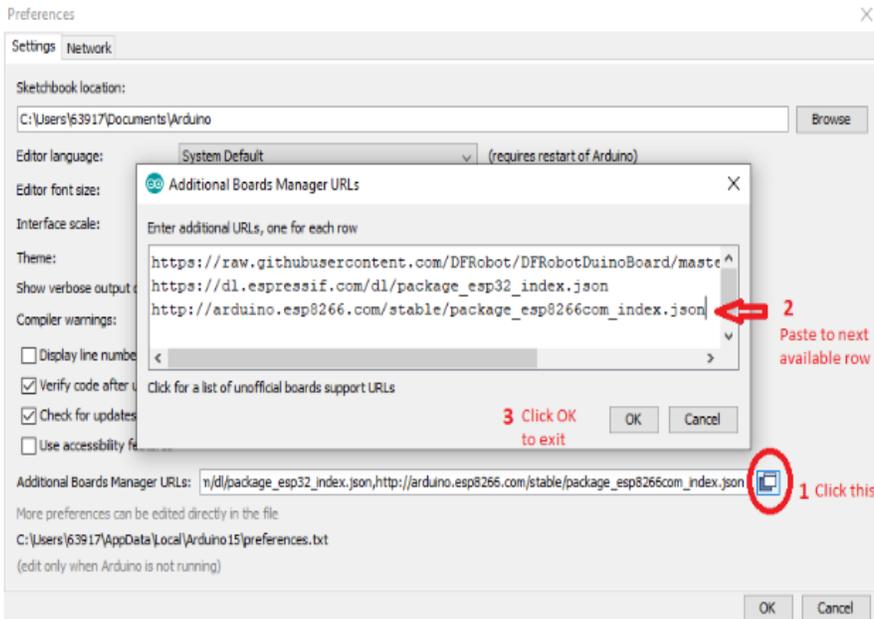

Figure 2.18: Step 3 Installing ESP32 or ESP8266
- Refer Figure 2.18, at the additional Board Manager URL, can type for ESP 32 OR ESP8266.